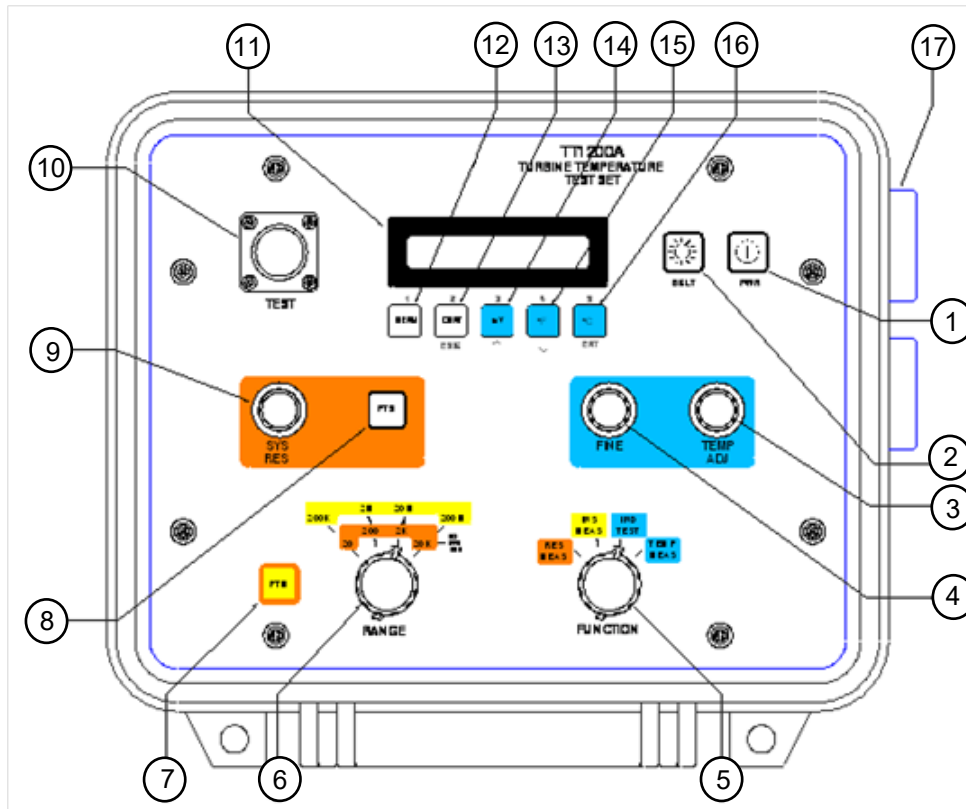

Figure 5 TT1200A Front Panel & Switches
A. The functions of the front panel switches and components are as follows (refer to Figure 5):
- A. At power up, the TT1200A displays a series of informational messages (refer to Figure 5), including the unit's software version (Ver ##.##.##.X); the available battery power percentage (Battery ###%) and the calibration due date (Cal. Due, mm/yyyy).